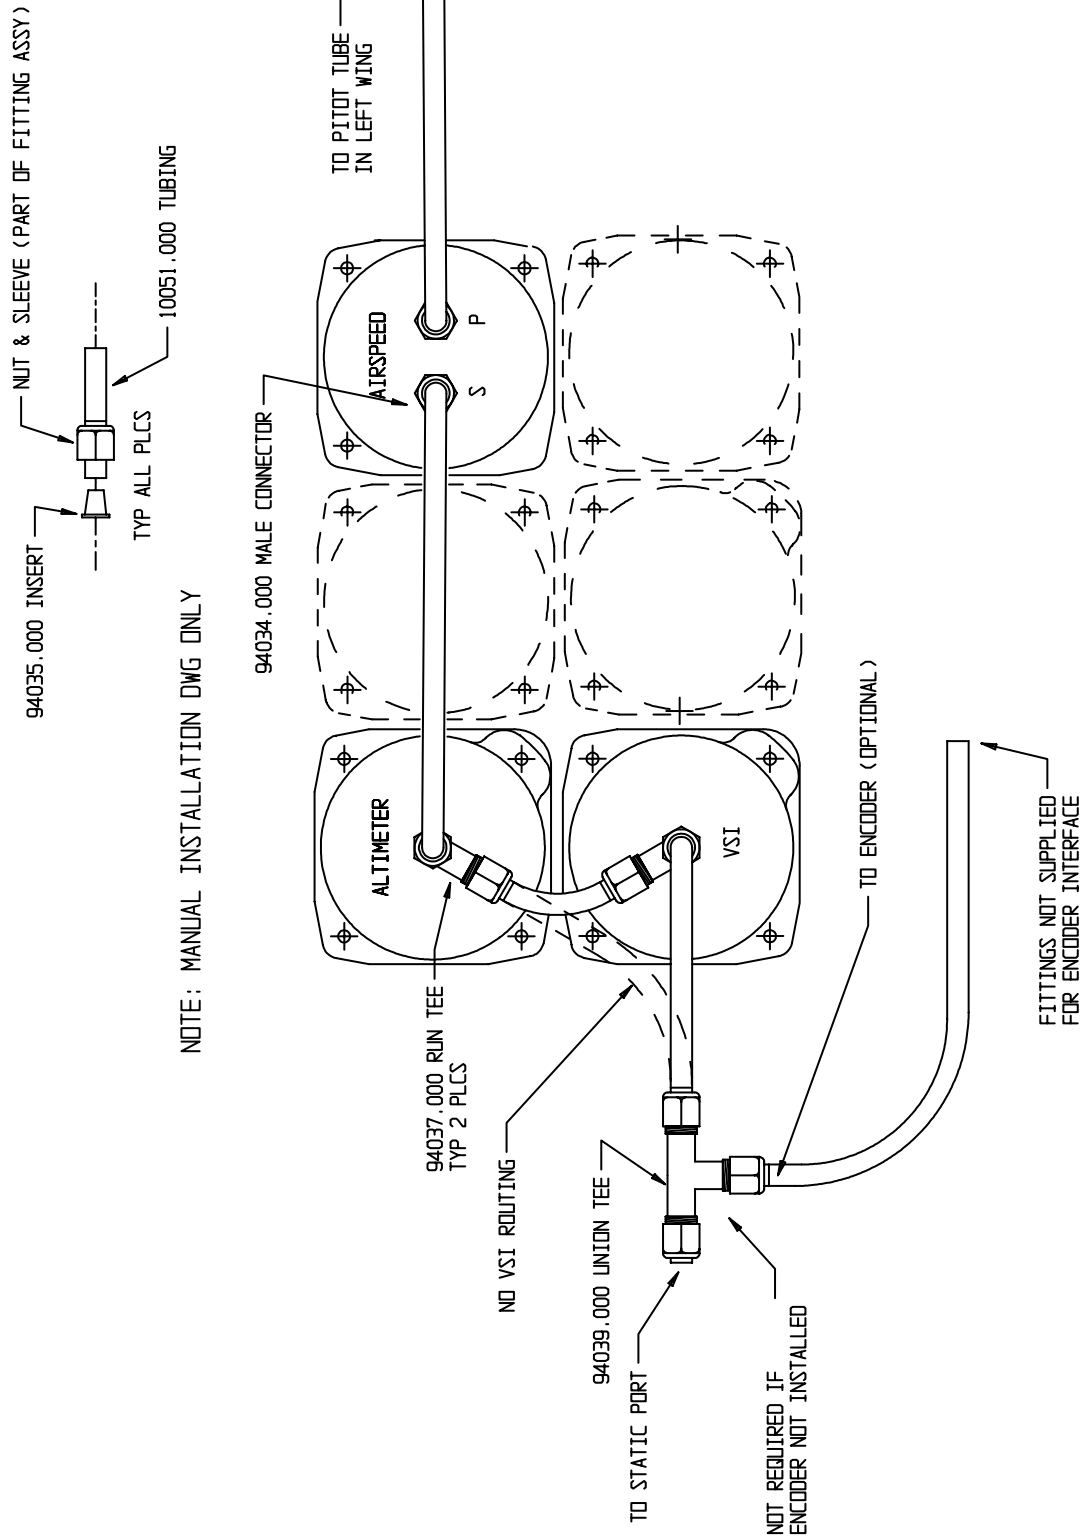

Figure 3
6. Route the pitot and static tubing through the fuselage to the instrument panel. The exact fittings and routing will depend on the instruments you will be using; use Figure 3 for guidance. The pitot tube terminates only at the 'P' port on the airspeed indicator. The static system supplies reference pressure to the airspeed indicator, the altimeter, the vertical speed indicator, and the transponder encoder. Assemble the tubing fittings using the procedures outlined in the previous sections. Double check that the airspeed indicator is properly plumbed, because the instrument will be damaged if the static port ever sees higher pressure than the pressure port.